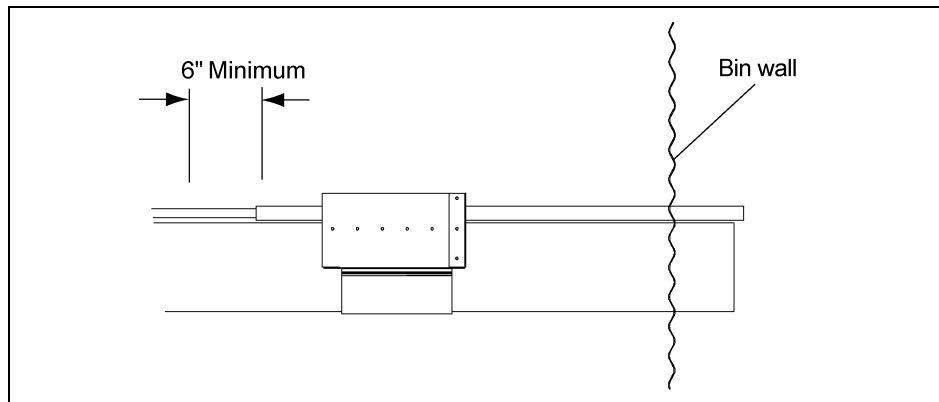

Figure 4F
- Continue installing the floor to the desired intermediate well position. Locate the sump so that grain will be removed to allow entrance through the side door. The location will vary based on grain properties and the level of experience of the installer. The well is designed to fit in two (2) plank widths. The locking lip of the preceding plank may need to be removed to allow an easy fit between two (2) plank widths. Slide the well body tight against the preceding plank and mark the position of the well on the tube. Slide the well away and cut the opening in the tube.
- Reposition the intermediate sump body over the hole. Secure in place with the band clamp and eight (8) $\frac{3}{8}$ " x $1\frac{1}{2}$ " bolts and nuts provided.
- Position the intermediate control rod as shown in Figure 4F with 6" of pipe behind the body of the well. Mark the position of the gate clamp on the pipe with the gate slide shut. A $\frac{3}{8}$ " hole must now be drilled on one side of the pipe to receive the dimple in the gate clamp. Bolt the clamp to the slide gate with two (2) $\frac{5}{16}$ " x $\frac{3}{4}$ " bolts and deformed lock nuts.